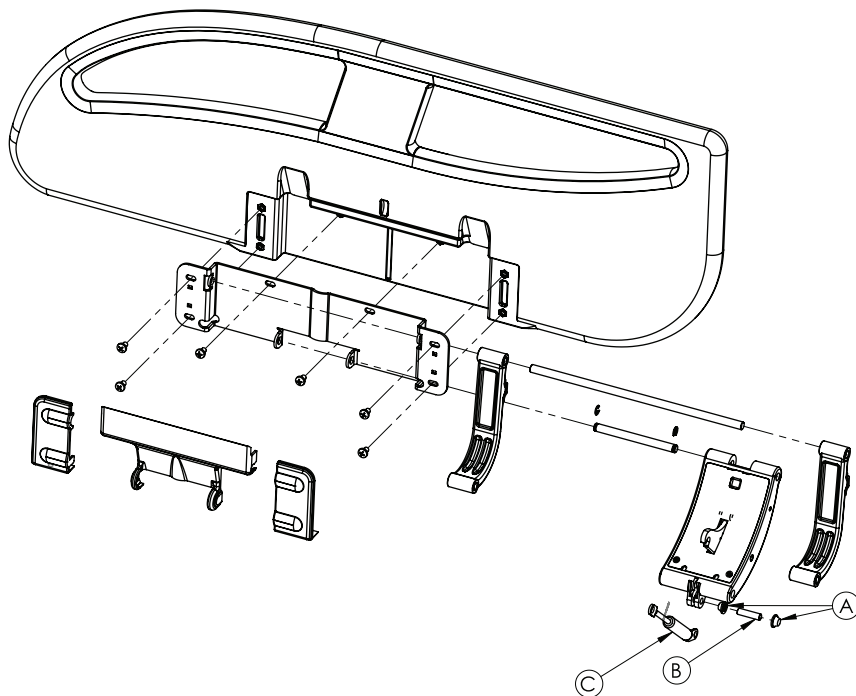

Figure 9: Foot end siderail gas cylinder
7. Using a large flat screwdriver and a hammer, remove one of the push nuts (A) that secures the bottom of the foot end siderail gas cylinder to the siderail mechanism (Figure 9 on page 48).
8. Remove and discard the pivot pin (B) and foot end siderail gas cylinder (C) (Figure 9 on page 48).